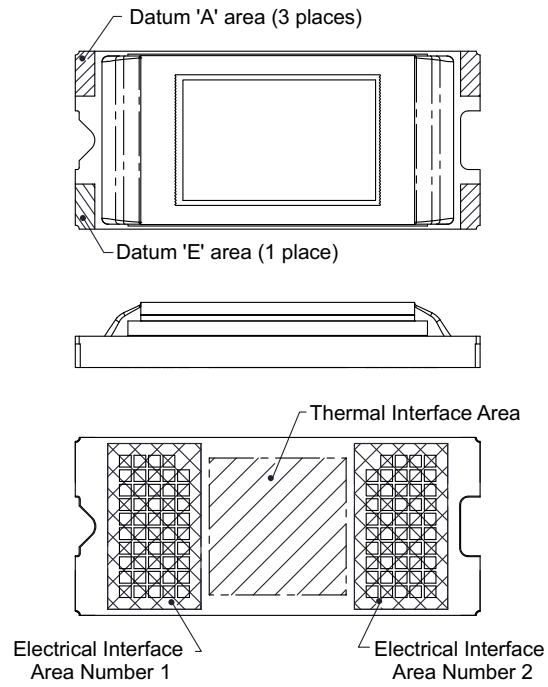

Figure 4. System Interface Loads for FQD
- (1) See and Mechanical, Packaging, and Orderable Information for diagrams.
- (2) See Mounting Concepts DLP4500FQE.
- (3) See and Figure 4 for diagrams.
- (4) See Mounting Concepts DLP4500FQD.